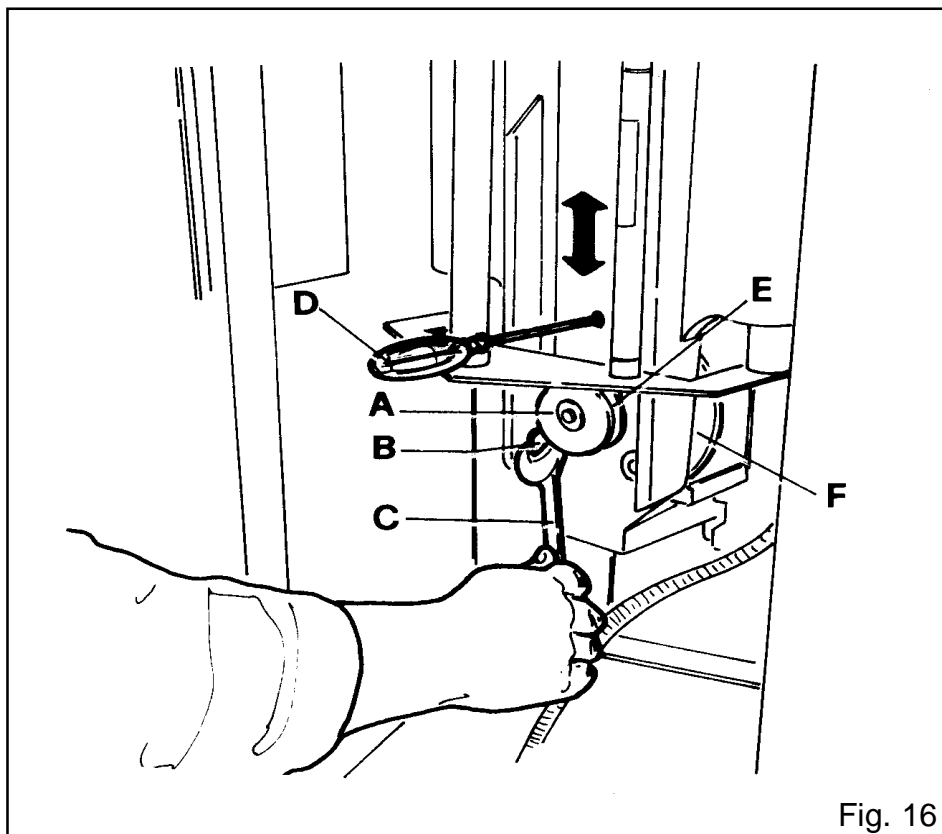

Fig. 16
After about 100 working hours, it is necessary to tighten the driving belt E (Fig. 16) which is carried out in the following way:
- Loosen the four nuts B (Fig. 16) blocking the engine F (Fig. 16) by means of the special spanner C (Fig. 16)
- Insert the screw driver D (Fig. 16) in the special hole, by pulling up the handle as a lever.
- Tighten the four nuts B (Fig. 16) by means of the special spanner C (Fig. 16).
- The belt E (Fig. 16) placed in the special pulley A (Fig. 16) will be tighten.